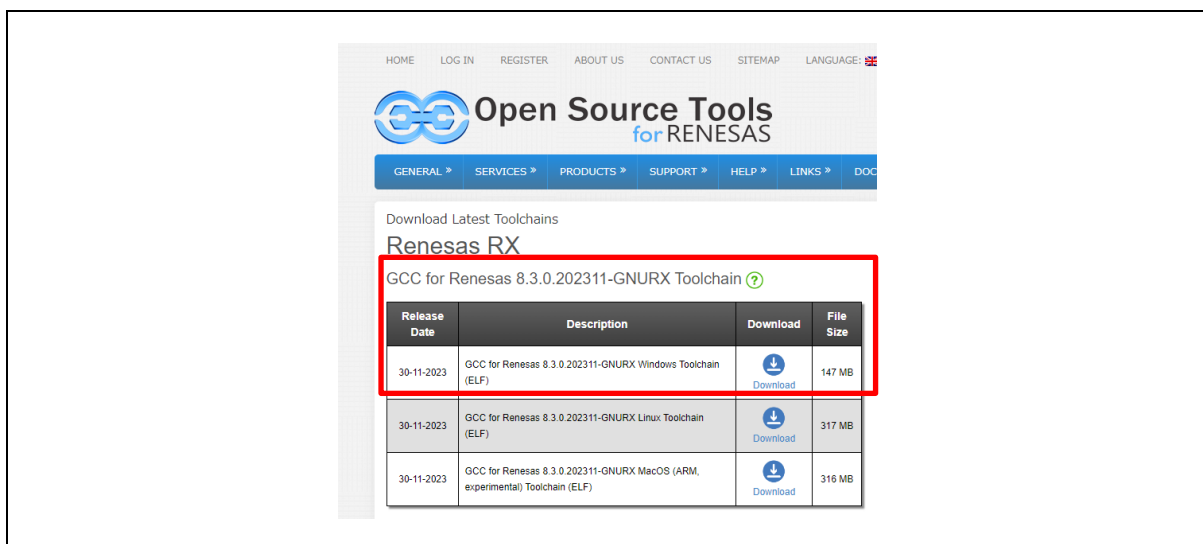

Figure 4-17 Download page
4.5	Replace Figure 4-17 and update compiler version